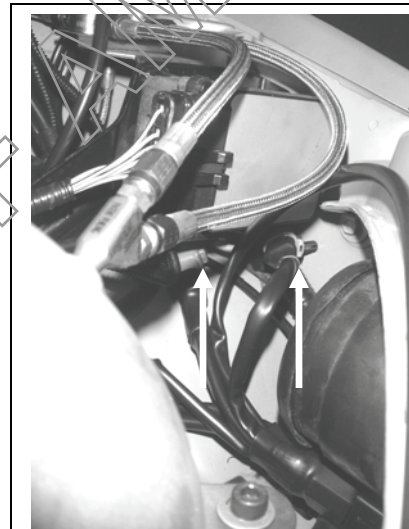

FIGURE 40
64. Plug the 3-pin male connector of the bulkhead to fender harness (05-1704-B08196) into the 3-pin female plug of the main harness (05-1704-B08197). Plug the 4-pin male connector for the solenoid harness (05-1704-B08193) into the 4-pin female receptor of the main harness. **(FIGURE 40)** The male ends should both be found in front of and below the solenoid bracket.